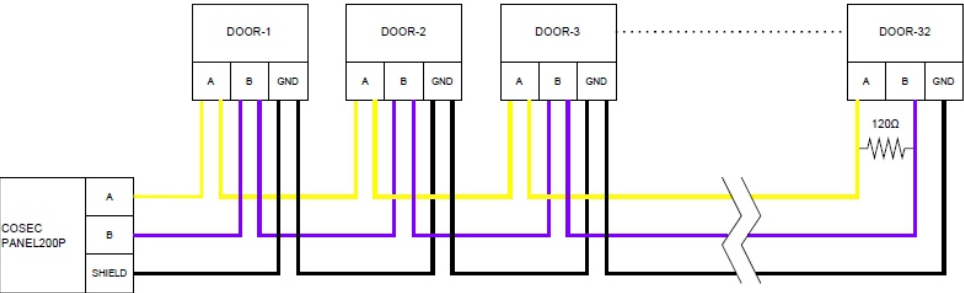

Figure 4
- Using RS-485, you can connect upto 32 devices in a loop. Refer Figure 4.